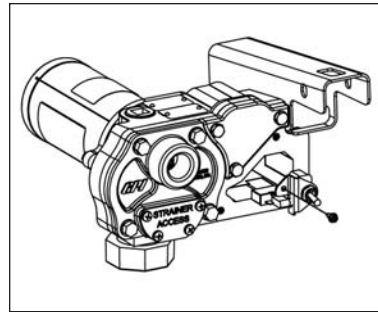

Figure 11
3. Inspect the wiring connections and cavity. (Figure 11)